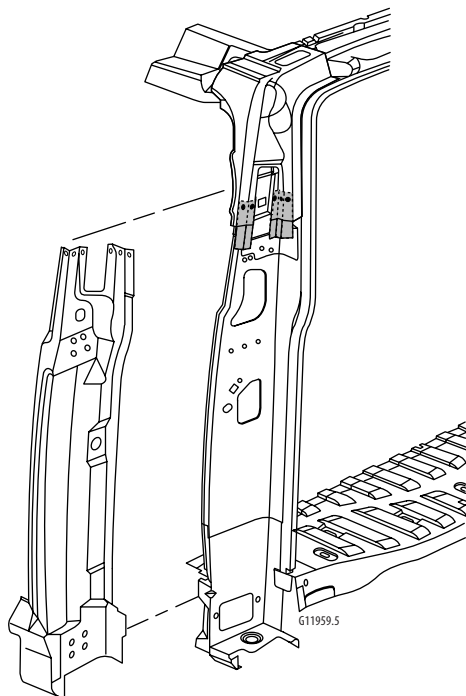

Figure 9-5:
5. Align the service part to the vehicle (figure 9-5), check fit using three-dimensional measuring equipment and plug weld accordingly.